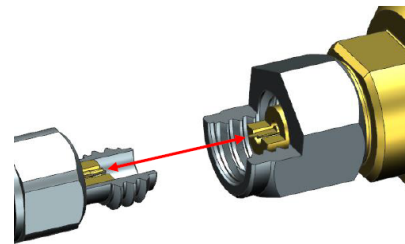

Figure 9. Align connectors together along a common axis [1]
1. **carefully align** the two connectors bringing them together along a common axis as shown in Fig. 9.